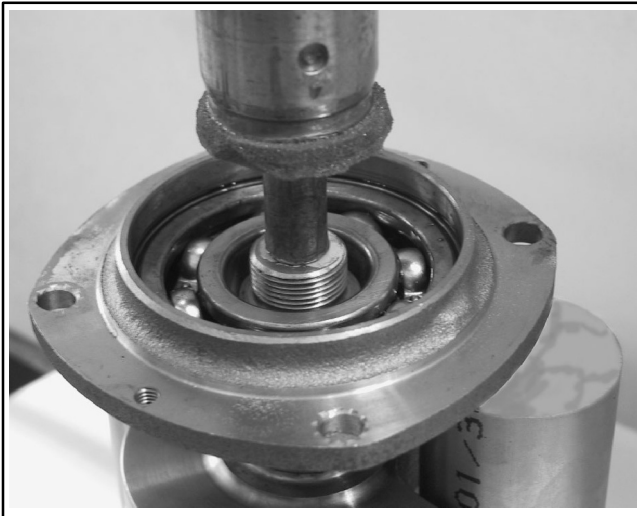

Figure 10-58 Crankshaft
- b. Press out the crankshaft. See Figure 10-58.